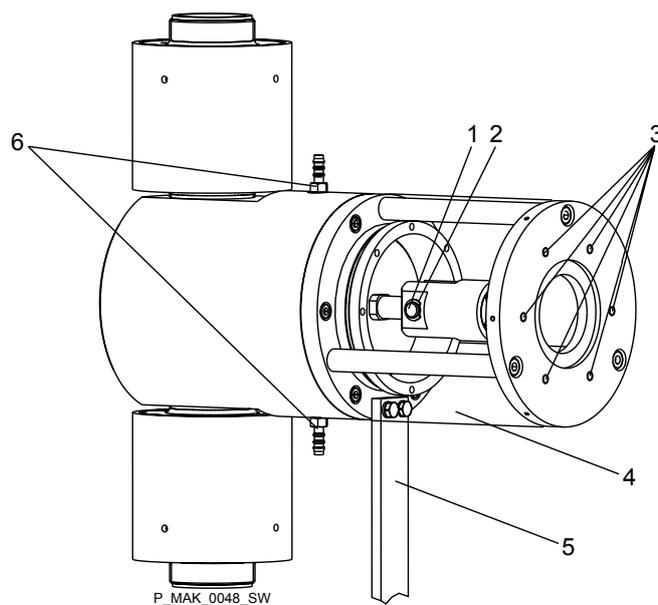

Fig. 18: View of the liquid end
7. Remove the protective cover (4) from the turret - see Fig. 18.
8. Remove a safety collar (2) from the bolt at the swivel head and pull out the bolt (1)